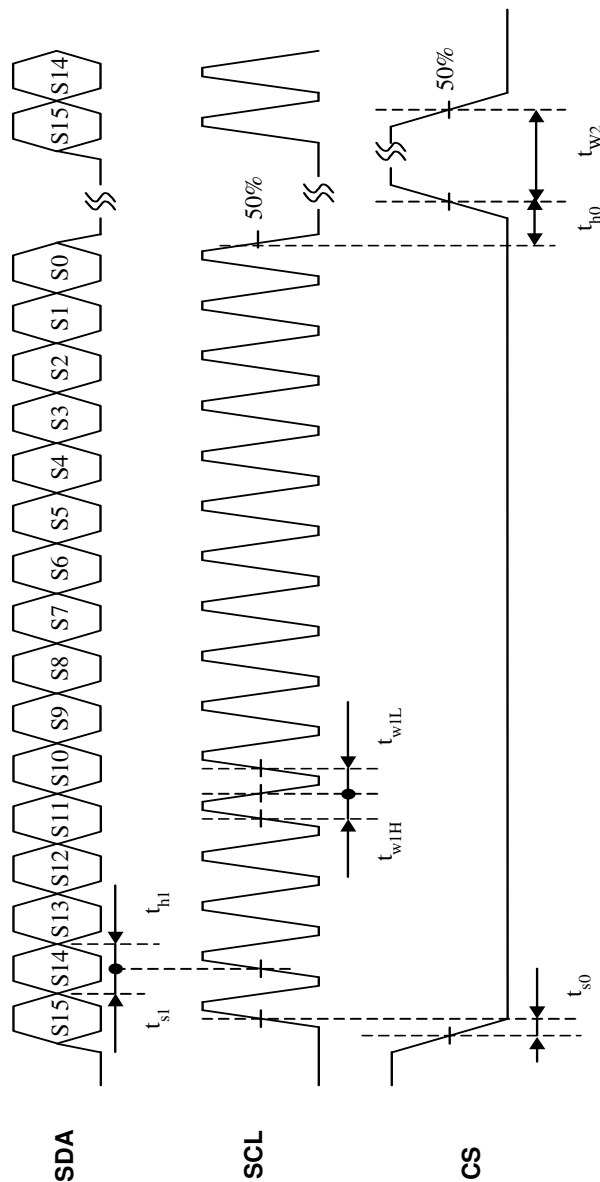

Fig. 7 Serial Control Timing
a. Timing condition (refer to Fig. 7)